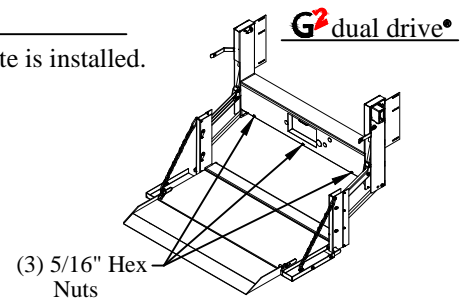

Figure 8: Box cover location.
1. **Remove** the box cover by removing the 5/16" nuts (Figure 8).
5. **Remove** the box cover by removing the 5/16" hex head nuts (Figure 8).
2. **Install** the circuit breaker bracket on the driver side fender, inside the engine compartment away from moving parts (Figure 8). Use two (2) supplied #12 self-drilling screws. Leave room for the power cables to be installed and the circuit breaker to be reset.